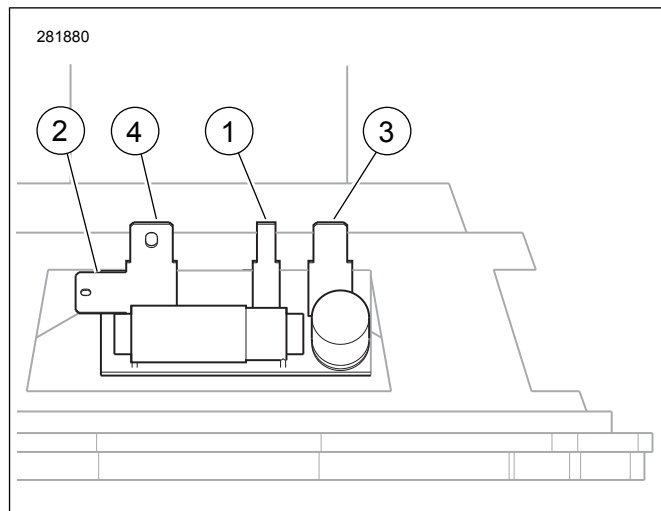

Figure 2. Bagger Speaker Spade Terminals
3. See Figure 2. Connect the wires from the grille-mounted tweeter to the spade terminals (1) and (2) on the back of the speaker. Different size spade contacts prevent improper assembly.
6. See Figure 2. Install the socket terminals from the vehicle harness to the spade terminals (3) and (4) on the back of the speaker. Different size spade contacts prevent improper assembly.
2. See Figure 2. Connect the wires from the grille-mounted tweeter to the spade terminals (1) and (2) on the back of the speaker. Different size spade contacts prevent improper assembly.
3. Install the socket terminals from the vehicle harness to the spade terminals (3) and (4) on the back of the speaker. Different size spade contacts prevent improper assembly.